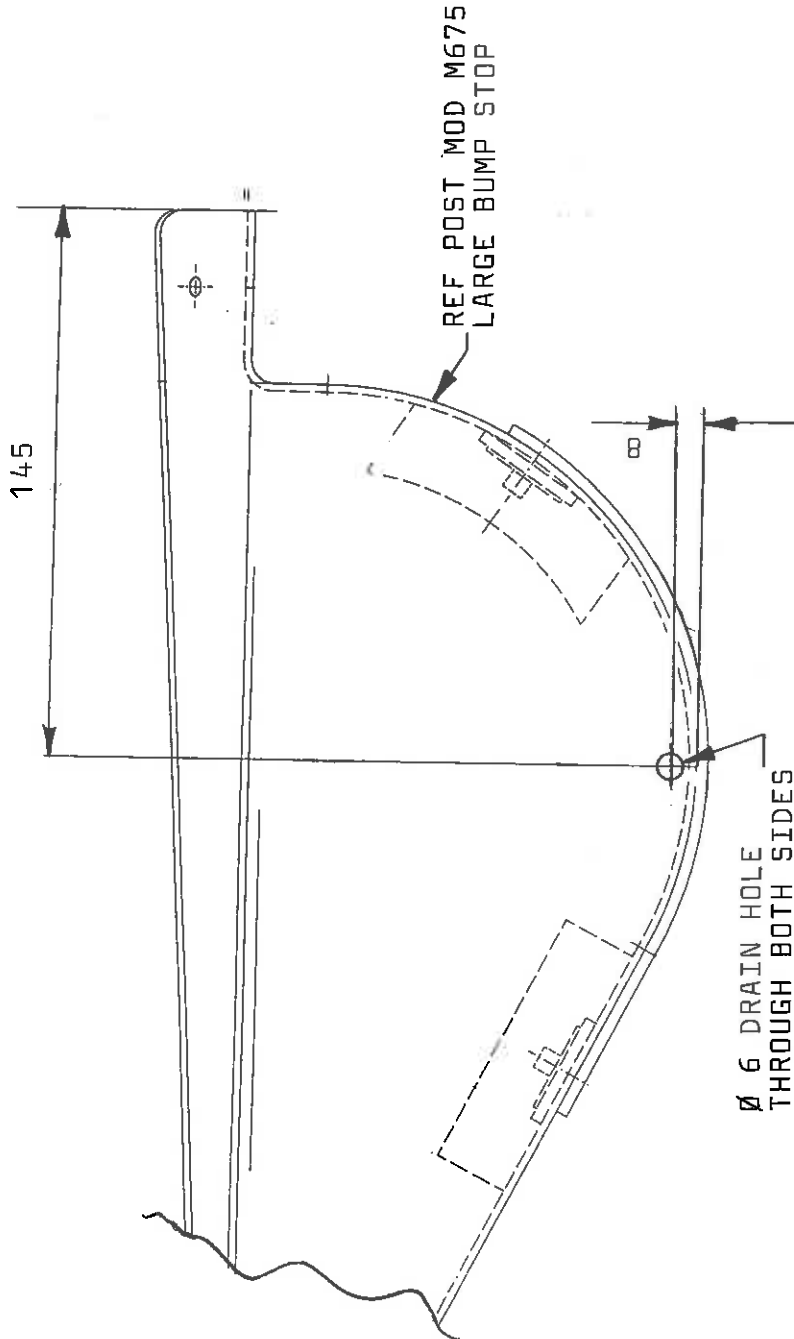

FIG 1 ENLARGED
1. Drill 6mm dia hole through both sides of the bump stop in the position shown in Fig.1.